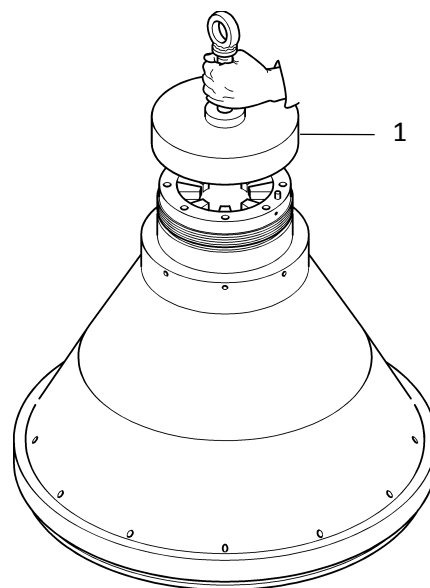

Figure 6.16
- Fasten spanner body (1) on the bowl hood (fig. 6.16).